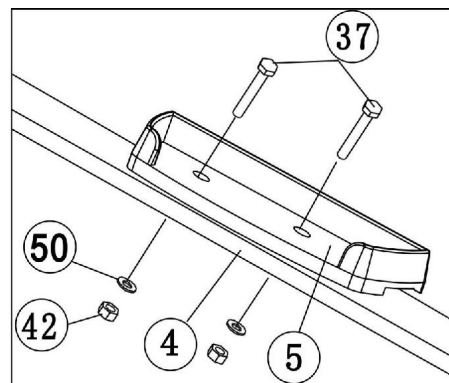

Figure 8
Attach the left Pedal (5) to the left Pedal support tube (4) with four M8x50 Bolts (37), $\Phi 8$ Flat washers (50), and M8 Lock nuts (42). Do the same steps as above to assemble the right Pedal (5) to the right Pedal support tube (4). (Refer figure 8)